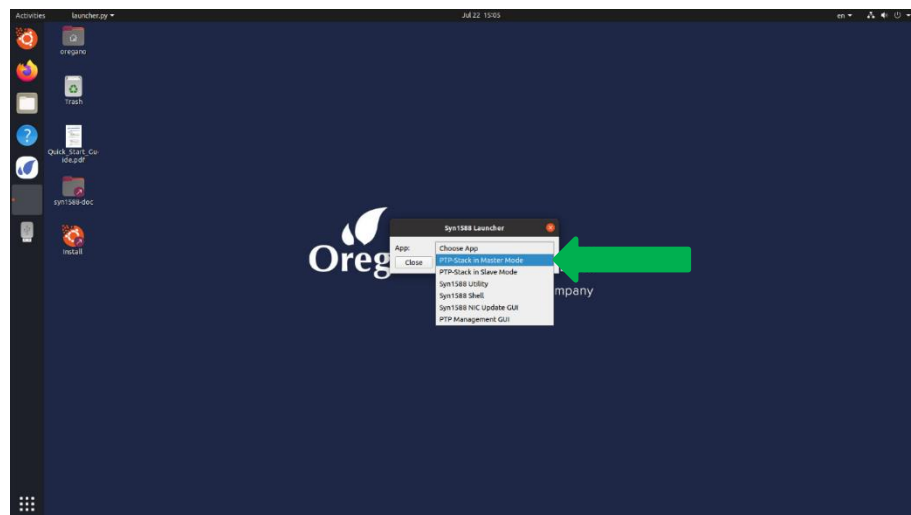

Figure 5 Select to run “PTP-Stack in Master Mode”
2. Select "PTP-Stack in Master Mode" in the drop-down menu (Figure 5)